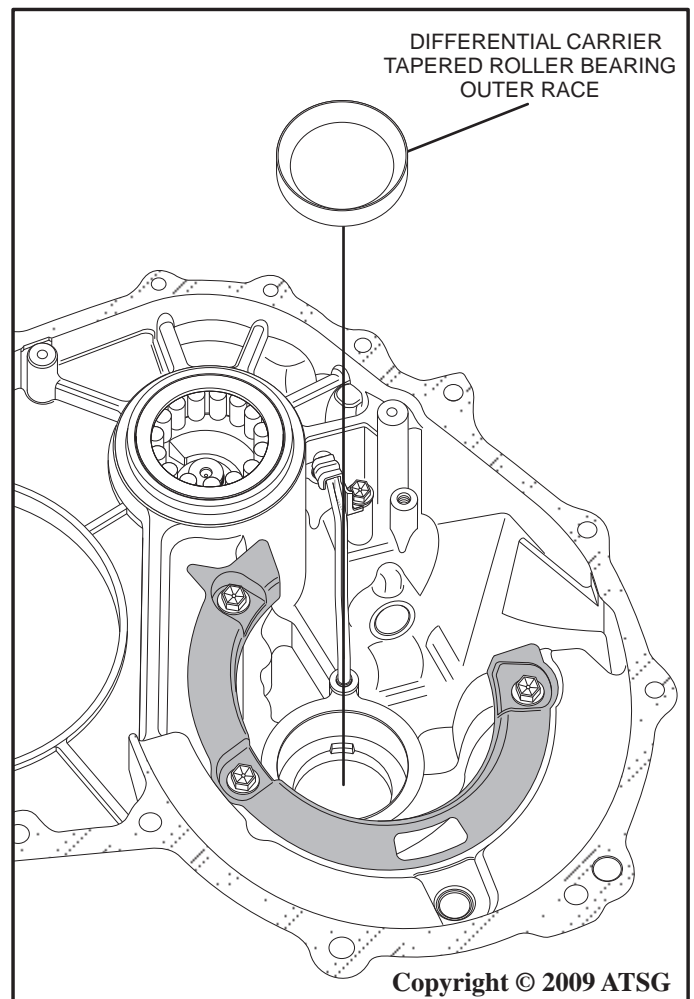

Figure 61
3. Remove the differential carrier tapered roller bearing outer race from the case as shown in Figure 61.